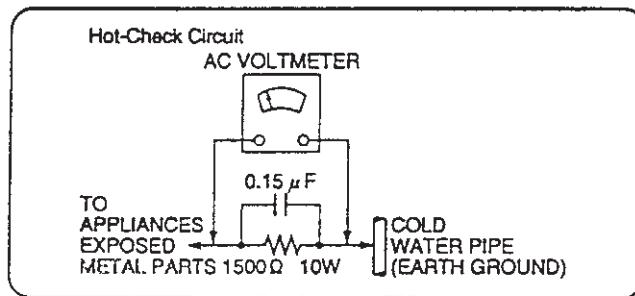

Figure 1
#### LEAKAGE CURRENT HOT CHECK (See Figure 1.)
2. Connect a  $1.5k\Omega$ , 10 watts resistor, in parallel with a  $0.15\mu F$  capacitors, between each exposed metallic part on the set and a good earth ground such as a water pipe, as shown in Figure 1.